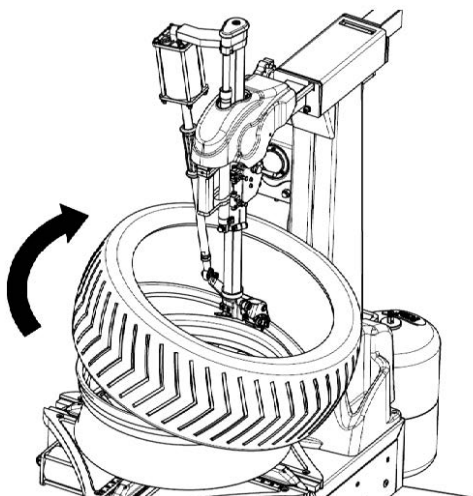

FIG 34
- Clean up the oil and rust on the rim and lock the rim on the turntable. Note: the demount groove must be at upper side to mount. Spread the lubrication liquid or soap liquid around the lip. Tilt the tire against the rim and keep the front end upwards. Press down the column tilt pedal to make the column return to the original position. Move the demount head to firmly contacted rim. Position the left of the lip above the tail of the demount tool and the right under the hump of the demount tool (**FIG34**). Press down the right side of the tire as hard as you can and step turntable pedal to rotate the turntable clockwise to guide the lip into the tire detach slot completely.